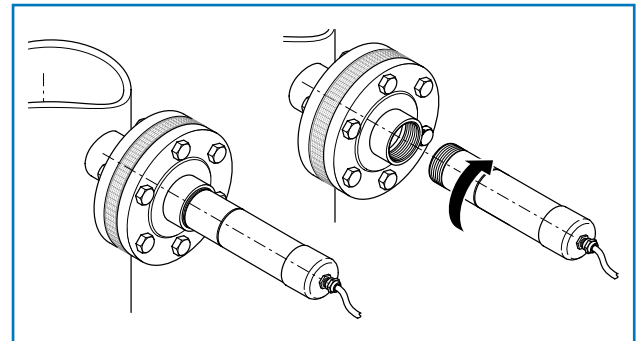

Fig. 6: Mounting with separating flange
- for high-temperature and high-pressure applications with a separating flange (Fig.6)